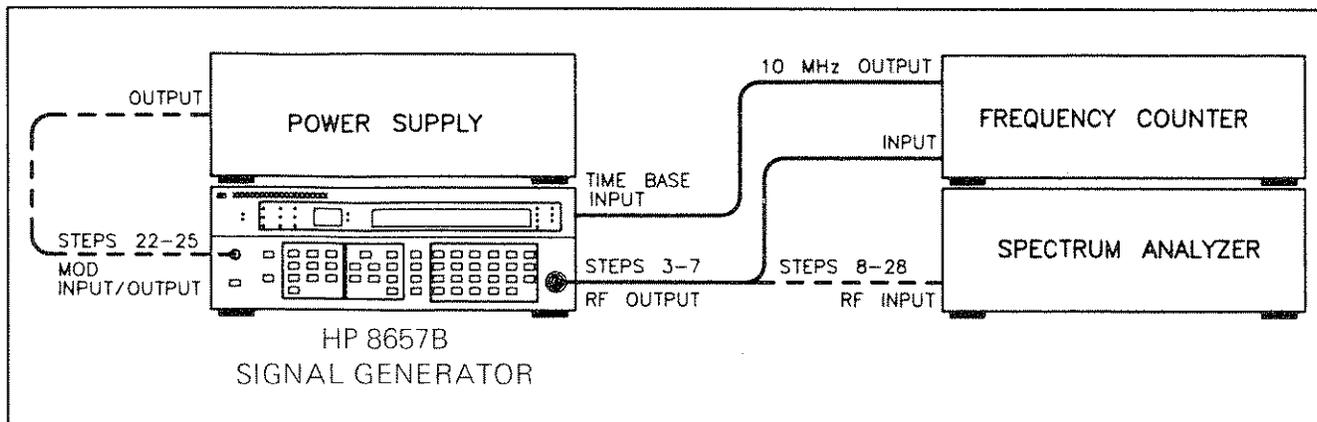

Figure 3-2. Test Setup for Basic Functional Checks
3. Connect the RF OUTPUT of the HP 8657B to the input of the frequency counter, and the 10 MHz reference output from the frequency counter to the TIME BASE INPUT located at the rear of the HP 8657B as shown in Figure 3-2.
8. Connect the RF OUTPUT of the HP 8657B to the input of the spectrum analyzer as shown in Figure 3-2.
24. Connect a power supply to the MODulation INPUT/OUTPUT Connector of the HP 8657B as shown in Figure 3-2. Set the power supply for a +1 Vdc output and switch the voltage line on. Notice the LO EXT annunciator will remain on. The carrier frequency displayed on the Spectrum Analyzer should move three divisions to the right. The carrier frequency is offset by 60 kHz.